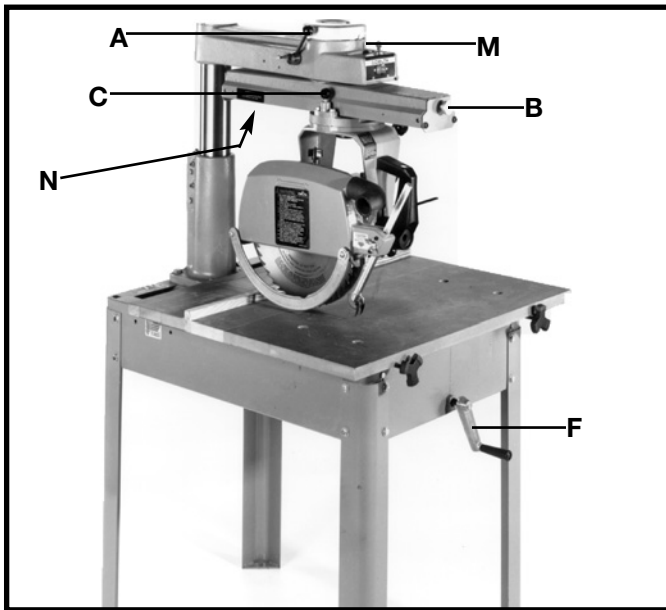
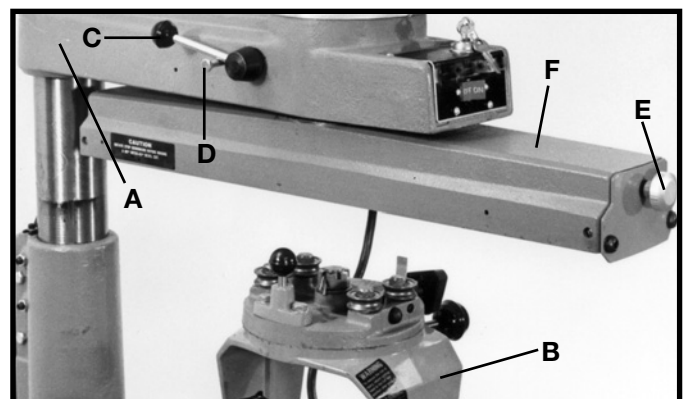
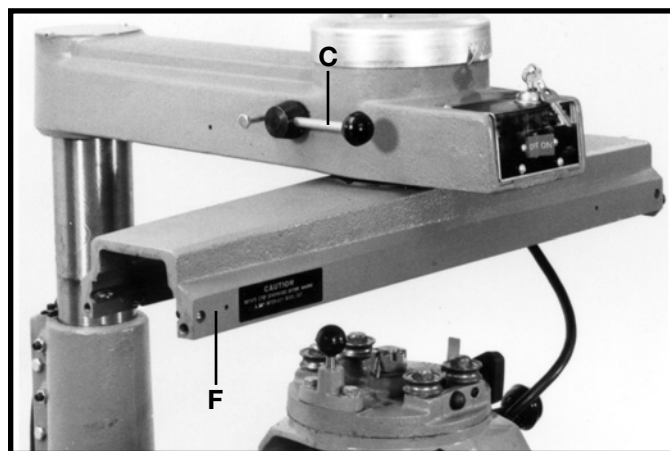

Fig. 2
Fig. 7
Fig. 8
A – TRACK ARM CLAMP KNOB. Controls swing of track arm for all miter cutting operations. Locks track arm at any angle for the full 360° rotation. To rotate track arm loosen clamp knob and rotate arm. The arm will stop at the 0° and 45° positions right and left. To move the arm past these points the track arm index knob (B) must be pulled out. (Fig. 2)
B – TRACK ARM INDEX KNOB. Locates 0° and 45° position, right and left, of the track arm. (Fig. 2)
C – YOKE INDEX LEVER. Locates each 90° position of the yoke for ripping or cross-cutting operations. When rotating the yoke the yoke clamp handle must first be loose. (Fig. 2)
overarm. (Fig. 2)
M – MITER SCALE. Indicates degrees left and right for setting track arm. (Fig. 2)
1. Raise the track arm assembly (A) Fig. 7, by turning overarm elevating handle (F) Fig. 2.
2. Remove packing material from around cuttinghead assembly (B) Fig. 7.
3. Push track arm clamp lever (C) Fig. 7, to the rear until it rests against stop (D) as shown.
4. Pull out on track arm index knob (E) Fig. 7, and rotate track arm (F) 90° to the position shown in Fig. 8. Tighten track arm clamp lever (C) Fig. 8, by pulling it to front position.